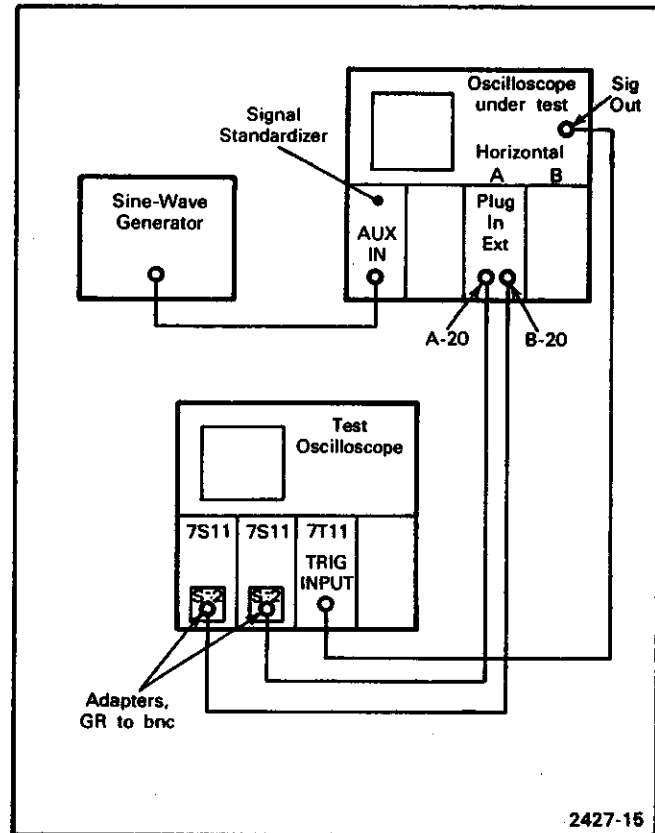

Figure 2-3. Test setup to check frequency response of trigger channel.
7. Connect the output of the leveled sine-wave generator to the AUX IN connector on the Signal Standardizer with a 50 Ω coaxial cable. Figure 2-3 shows the connections.
10. Connect the Sig Out connector of the oscilloscope being tested to the Trig Input connector of the 7T11 with a 50 Ω coaxial cable. Figure 2-3 shows this connection.